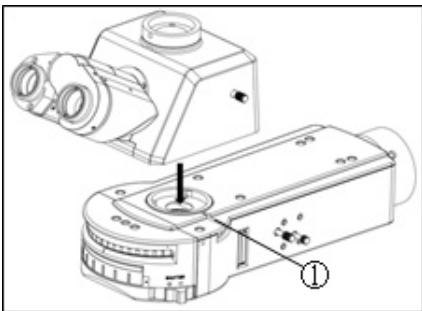

Fig. 8
4.2.6. Installing the Trinocular Head (Fig. 8)